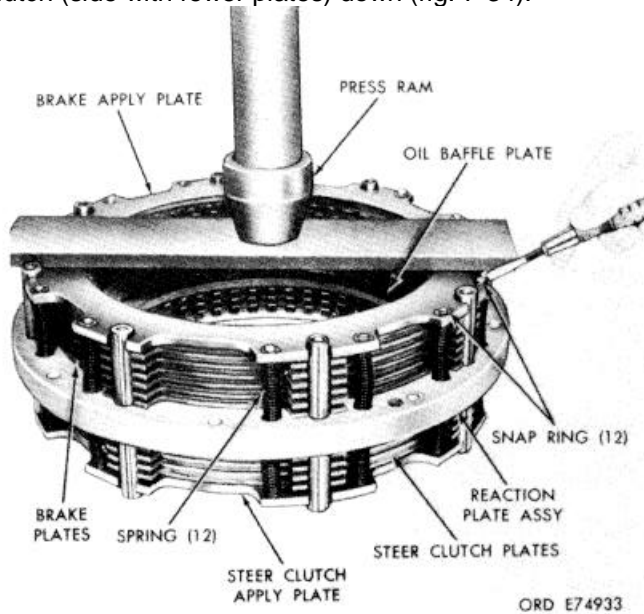

Figure 7-34. Removing or installing snaprings which retain brake and steer clutch release guide pins.
a. Position the assembly in a press with the steer clutch (side with fewer plates) down (fig. 7-34).
b. Depress the brake apply plate (fig. 7-34) until pressure is relieved from the snaprings. Remove the 12 snaprings.
c. Remove the brake apply plate and 12 springs. Remove six internal-splined brake plates and six external-tanged brake plates (fig. 7-34).
d. Lift the brake and steer clutch reaction plate assembly off the oil baffle plate and steer clutch plates (fig. 7-34).
e. Remove the oil baffle plate. Remove four external-tanged steer clutch plates and four internal-splined steer clutch plates (fig. 7-34).
f. Remove 12 spring guide pins (15, FO-7) from steer clutch apply disk (16). Do not remove the remaining 12 retaining rings (17) from pins (15)
j. Install 12 springs (13) onto pins (15). Push them through the holes in plate (7) and against disk (16).
k. Install apply disk (2). flat side upward (counterbores of smaller holes downward), onto the assembly. Align the smaller holes to engage all 12 pins (15).
l. Using a press or C clamps, depress the brake apply disk until the pins project through the smaller holes in the disk. Install 12 snaprings (fig. 7-34). Release the pressure and remove the assembly from the press.